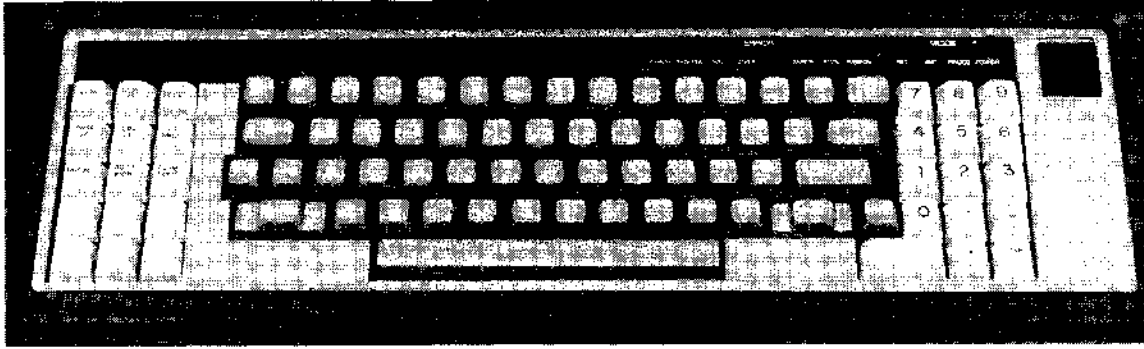

Figure 2-5. Keyboard
The keyboard is divided into three sections (see Figure 2-5). The middle and largest section is the alphameric section, generally resembling the ordinary typewriter keyboard. To the right is a 14-key numeric section which provides an alternate means of digit entry. The far left or control section contains additional control keyswitches for various HyTerm functions.
2.2.4.1.1 Control Mode. In addition to the "normal" and "shifted" modes of operation, a third keyboard mode, called "control" mode, is available. This mode is used to generate special control characters, such as VT, HT, FF, etc. These control characters are used to perform special functions such as vertical tab, absolute horizontal tab, etc. Control mode is in effect whenever the CTRL key is held down: to generate a control character, depress and hold down the CTRL key and then depress and release another key in the alphameric section. For example: To generate a Vertical Tab (VT) code on the keyboard shown in Figure 2-5, hold CTRL down and operate the "K" key once. Should both the SHIFT (or LOCK) and CTRL keys be depressed at the same time, the CTRL key will override, and the control mode will prevail.
2.2.4.1.3 Special Keys. On the keyboard, certain keys provide special functions. One of these already covered is the CTRL key. There are three others on the keyboard in Figure 2-5 worthy of a special mention. These are the ESC key in the upper left, the LINE FEED key, on the right, and the DEL key, in the lower right.